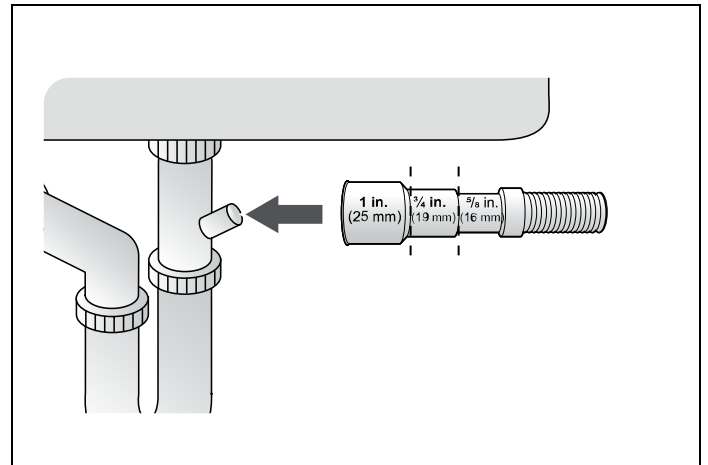

Fig. 18
- 3) Check the size of the sink drain hose connector. If needed, cut the drain hose so its end fits onto the sink connector (5/8", 3/4" or 1" - as shown in Fig. 18 ). If the end of the drain hose does not fit onto the drain hose connector of the sink, use an adapter purchasable at a plumbing/hardware supply store.